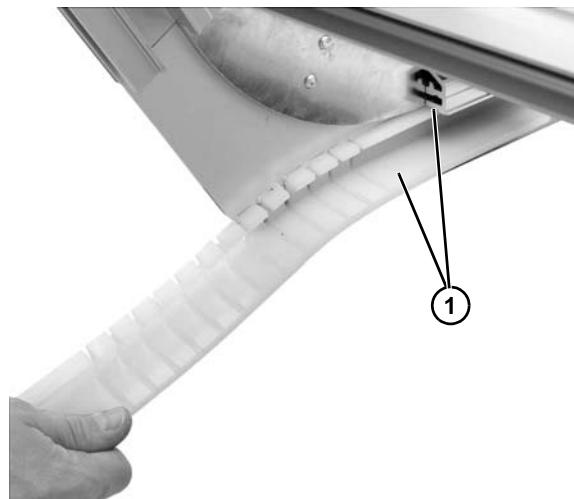

Figure 8
1. Be sure that the return strip (**Figure 8, item 1**) is inserted into the proper frame channel on each side of conveyor.